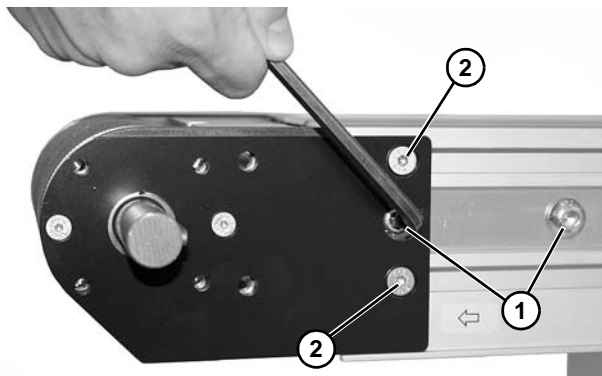

Figure 86
2. Remove drive tail from conveyor frame by loosening bolts (**Figure 86, item 1**) and screws (**Figure 86, item 2**) on both sides of conveyor.